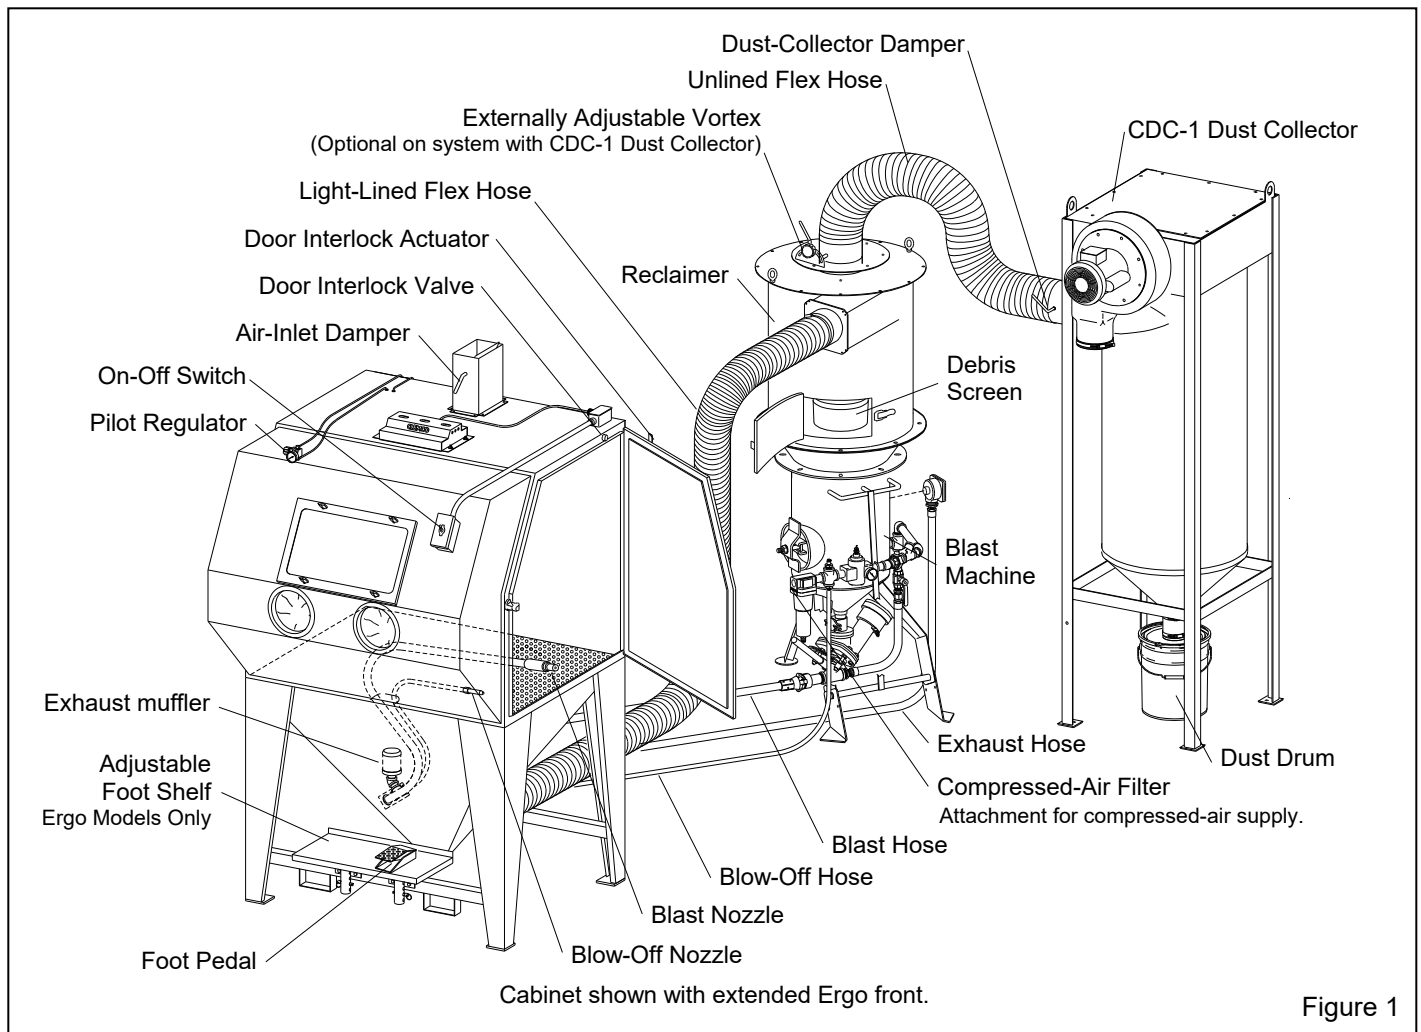
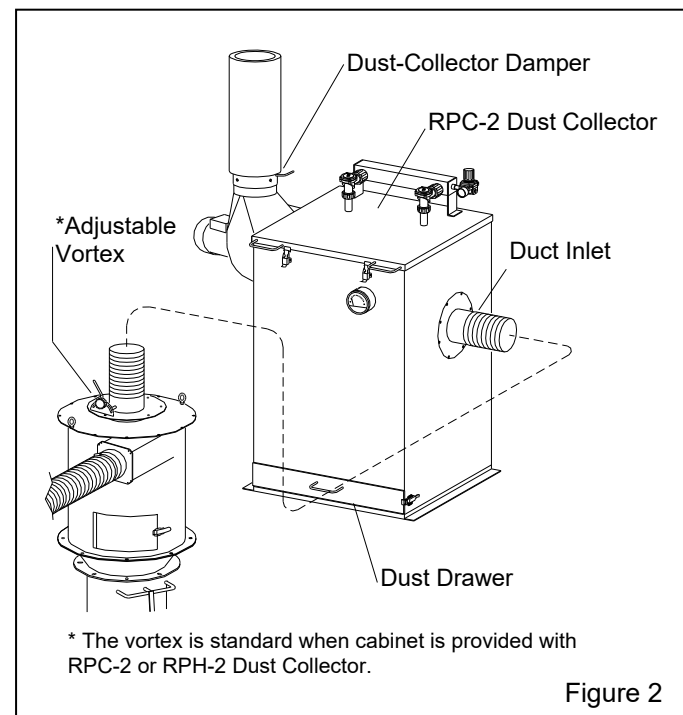

Figure 1
Figure 2
1.4.3 Refer to Figure 1 for arrangement of components with a CDC-1 Dust Collector. The illustration shows 900 cfm reclaimer mounted atop the blast machine; the smaller 600 reclaimer is mounted in the same manner. Figure 2 shows the arrangement with an RPC-2 reverse-pulse dust collector with dust drawer. The optional RPH is set up the same way as the RPC-2, but includes a hopper for additional dust storage and empties into a drum. The overall height of an RPH-2 is approximately 10.5 ft and 12 ft when the top access
1.7.1 CDC-1 Dust Collectors: Shown in Figure 1, the collector is available in 600, and 900 cfm models. The single filter cartridge is cleaned by using a manually controlled pulse of compressed air. Dust collects in a 5-gallon dust drum, which must be frequently emptied. CDC-1 Dust Collectors (refer to manual number 28225) are standard with BNP cabinets unless an optional RPC-2 or RPH Dust Collector is ordered at time of purchase.
1.7.2 RPC-2 Dust Collectors: Shown in Figure 2, this collector is available in 600 cfm and 900 cfm models. Dual filter cartridges are automatically cleaned by a timed, periodic pulse of compressed air. Dust collects in the drawer, and it must be frequently emptied. Refer to manual number 22788.
1.7.3 RPH-2 Dust Collector: The RPH-2 is available in 600 cfm and 900 cfm models. It is set up and operate the same as the RPC-2, as shown in Figure 2, but instead of a dust drawer, the collector sits atop a hopper, which provides additional dust storage, and empties into a drum. Refer to manual number 21449.
2.1.1 Refer to Figure 1 (and Figure 2 for optional reverse-pulse collector) for the general arrangement and Figure 6 for the control line schematic. Select a location where compressed air and electrical service are available. The cabinet location must comply with OSHA and local safety codes. Allow for full access to all doors and service areas and for efficient handling of large